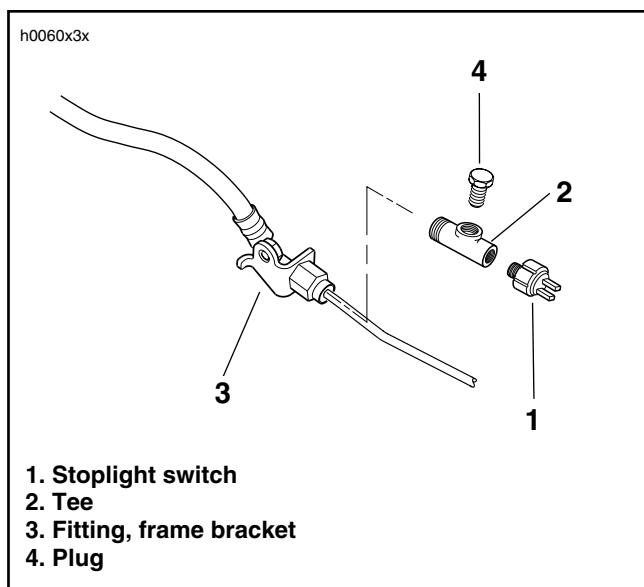

Figure 11. Brake Line Connection
1. See Figure 11. Remove stoplamp switch (1) from fitting (3) at frame bracket.
2. Coat male threads of tee (2) with Loctite Pipe Sealant with Teflon. Thread tee (2) into fitting (3) and tighten so that right angle opening is vertical.
3. Coat threads of stoplight switch (1) with Loctite Pipe Sealant with Teflon. Thread switch into end of tee (2).
4. If sidecar is not being attached, install plug (4) in the right angle opening.